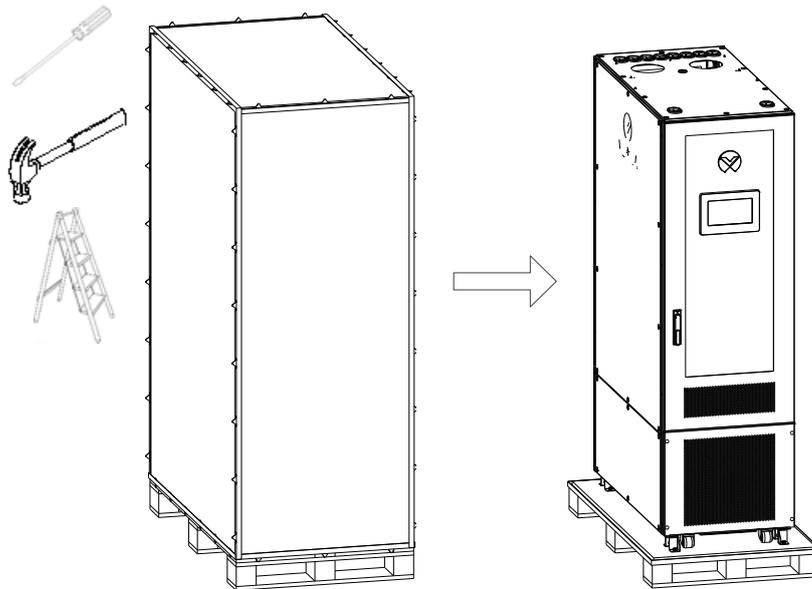

Figure 2-6 Remove wooden package
3) If you receive the wooden box packaging, use a flat-blade screwdriver with a claw hammer to open the steel tongue and remove the packaging board, as shown in Figure 2-6.